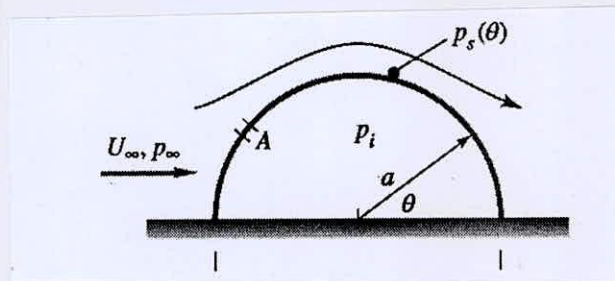

Fig. Q4.c
(c) Wind at  $U_\infty$  and  $p_\infty$  flows past a Quonset hut which is a half-cylinder of radius  $a$  and length  $L$ , shown in Fig. Q4.c. The internal pressure is  $p_i$ . Using inviscid theory, derive an expression for the upward force acting on the hut due to the difference between  $p_i$  and  $p_s$ . (15)